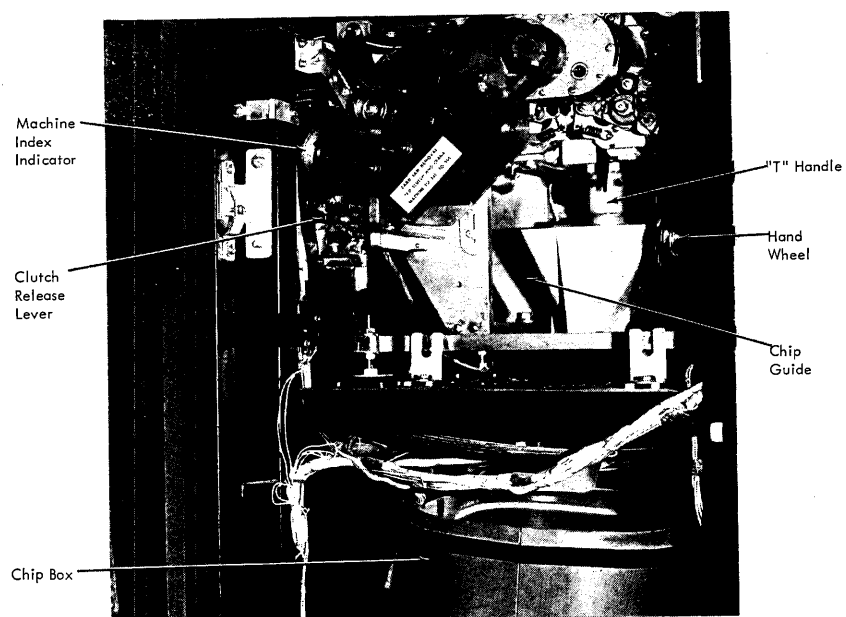

Figure 18. Punch "T" Handle and Machine Index
5. Remove the chip funnel (Figure 18).